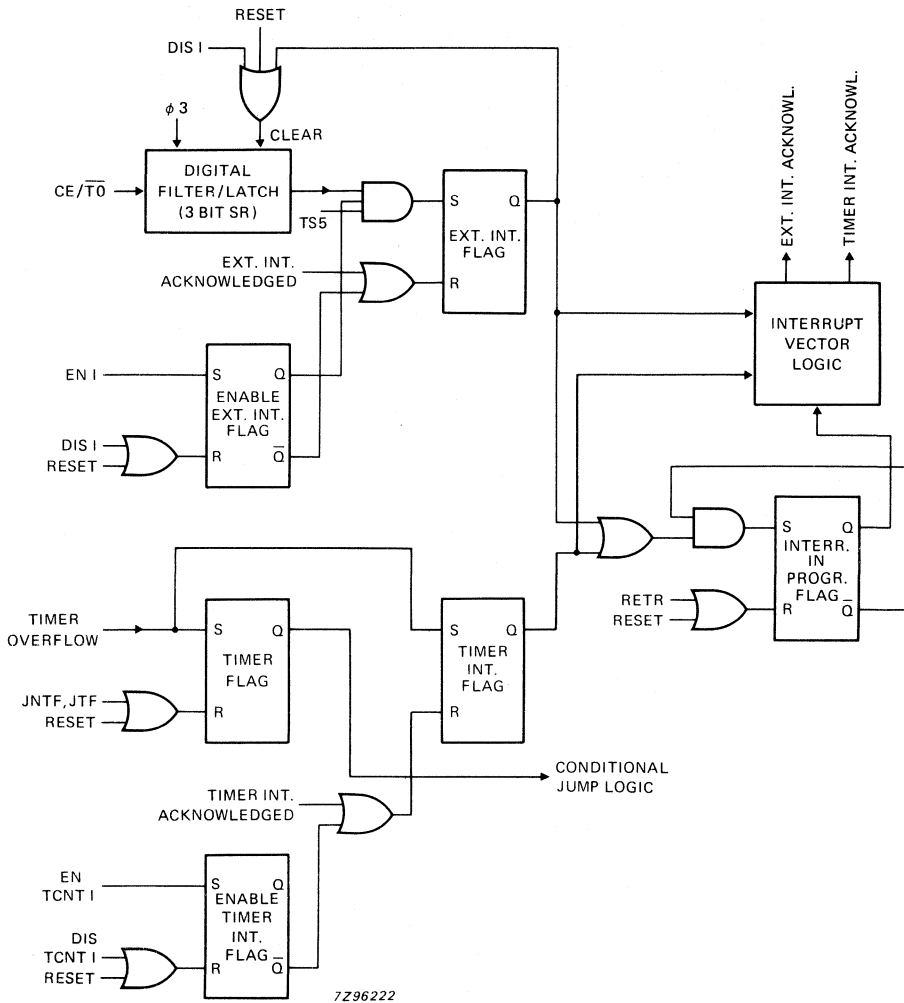

Fig. 13 Interrupt logic.
**Interrupts** (see Fig. 13)
**Notes to figure 13**